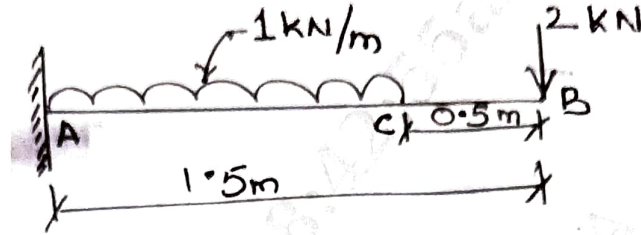

Fig Q7(a)
- 7 a. Draw the BMD and SFD for a cantilever beam of 1.5 m span as shown in Fig Q7(a).